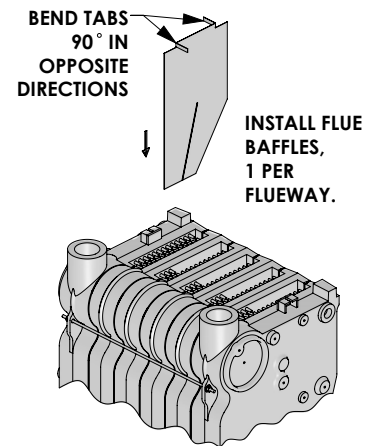

Figure 2.3: Flue Baffle Installation - 64-e Models
3. Knock-Down Boilers - Flue baffles are located in 64-e-07 thru 64-e-12 section jacket cartons. Bend baffle tabs as shown in Figure 2.3 and suspend baffles from top of flueways. Install one baffle per flueway.